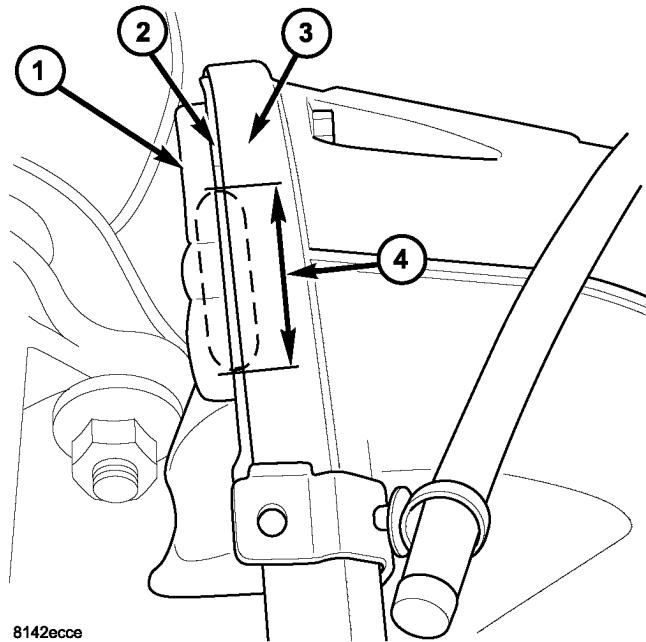

Fig. 2 ADAPTER OPENING DETAIL
2. Locate the narrow opening created by the spacer plate. The spacer opening can be viewed when looking towards the rear of the engine and top of the transmission bellhousing from the drivers side of the engine (Fig. 2).